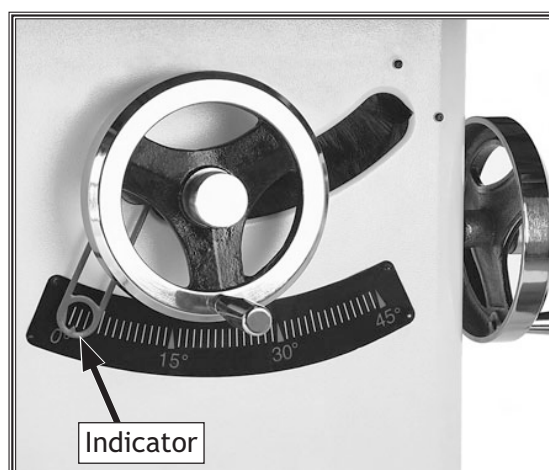

Figure 93. Tilt indicator arrow.
- If the blade is 90° to the table, then adjustments do not need to be made. Make sure the tilt indicator arrow shown in **Figure 93** points to the 0° mark on the scale. Adjust the position by loosening the button head screw, moving the indicator with your fingers, then tightening the screw.